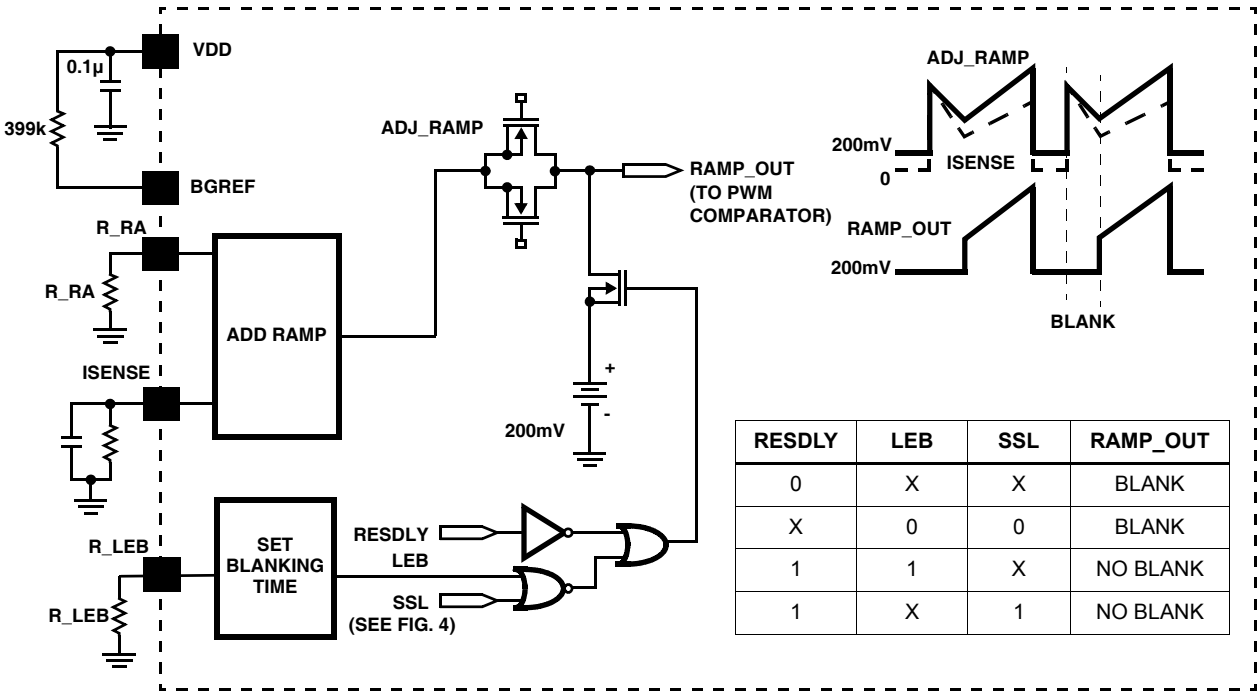

FIGURE 9. SIMPLIFIED RAMP ADJUST AND LEADING EDGE BLANKING CIRCUITS
- The ramp adjust block adds an offset component (200mV) and a slope adjust component to the ISENSE signal before processing it at the PWM Logic block, as shown in Figure 9. This ensures that the ramp voltage is always higher than the OAGS (ground sensing op amp) minimum voltage to achieve a “zero” state.
- Typical ramp values are hundreds of mV over the period on a 3V full scale current. Too much ramp makes the controller look like a voltage mode PWM, and too little ramp leads to noise issues (jitter). The amount of ramp (V_{ramp}), as shown in Figure 9, is programmed with the R_RA resistor and can be calculated with Equation 10.